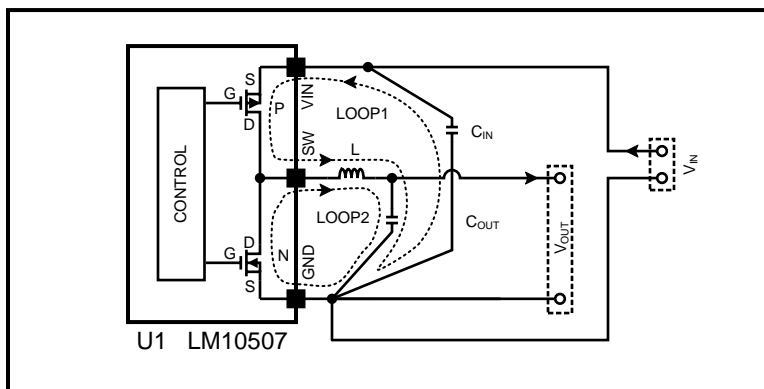

Figure 23. Schematic of LM10507 Highlighting Layout Sensitive Nodes
1. Minimize area of switched current loops. In a buck regulator there are two loops where currents are switched rapidly. The first loop starts from the CIN input capacitor, to the regulator VIN terminal, to the regulator SW terminal, to the inductor then out to the output capacitor COUT and load. The second loop starts from the output capacitor ground, to the regulator GND terminals, to the inductor and then out to COUT and the load (see Figure 23). To minimize both loop areas the input capacitor should be placed as close as possible to the VIN terminal. Grounding for both the input and output capacitors should consist of a small localized top side plane that connects to GND. The inductor should be placed as close as possible to the SW pin and output capacitor.